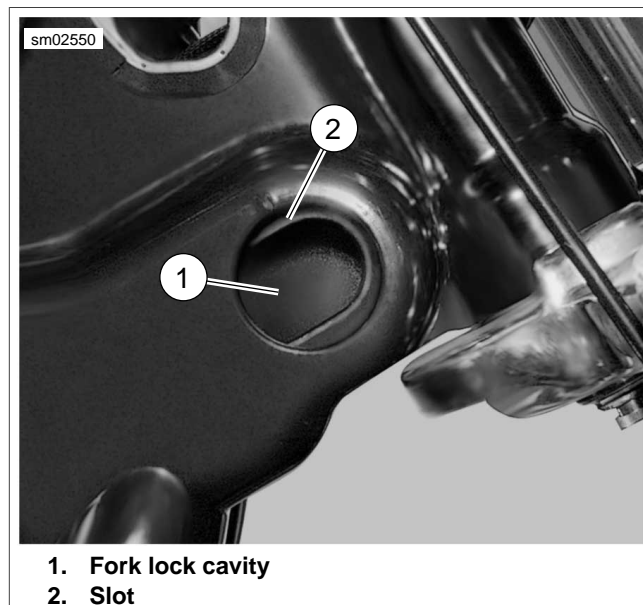

Figure 7-15. Fork Lock/Ignition Switch Cavity
2. Install face nut on ignition switch/fork lock (2). Turn face nut clockwise until it bottoms on ignition switch/fork lock.
4. With fork lock boss (3) facing front of vehicle, install ignition switch/fork lock into frame.
5. See Figure 7-15. Align flats on ignition switch/fork lock with slots (2) in fork lock cavity (1).